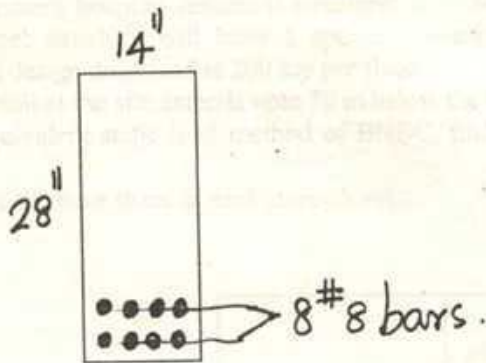

Fig. 6
11. For the beam section shown in Fig. 6 Calculate the moment capacity